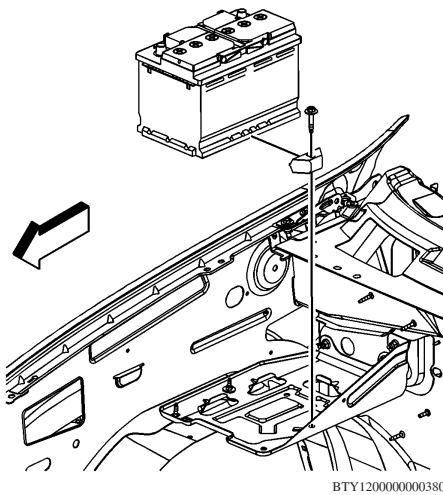

Fig. 3 Battery hold down retainer & battery removal
9. Remove battery hold down retainer bolt and retainer, **Fig. 3**.
2. Install battery hold down retainer and bolt, **Fig. 3**. **Torque** bolt to 18 ft. lbs.